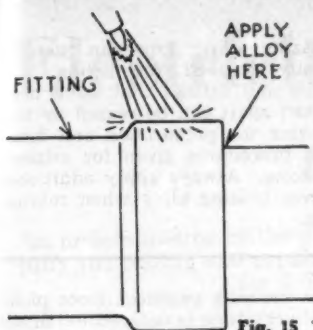

Fig. 15
- e—When flux on pipe adjacent to joint has melted to a clear liquid, transfer heat to fitting, Fig. 15.
- f—Sweep flame steadily back and forth from fitting to pipe, keeping it pointed toward pipe, Fig. 15. The object is to bring fitting and pipe up to an equal heat together for application of the silver brazing alloy. Avoid letting flame impinge on face of fitting as this can easily cause overheating.
- g—When flux is a clear, fluid liquid on both fitting and pipe, pull flame back a little and apply alloy firmly, against pipe at junction between pipe and fitting, Fig. 15. With proper heating, alloy will flow freely into the joint.